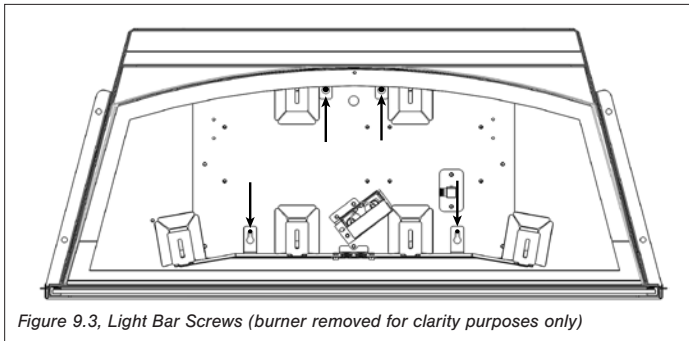

Figure 9.3, Light Bar Screws (burner removed for clarity purposes only)
2. Loosen, but do not remove (4) screws securing light bars to firebox floor. Slide light bars out away from screws, tipping upwards to expose lamp bases. See section Figure 9.3.
3. Install (6) halogen bulbs (included in components packet) into lamp bases.